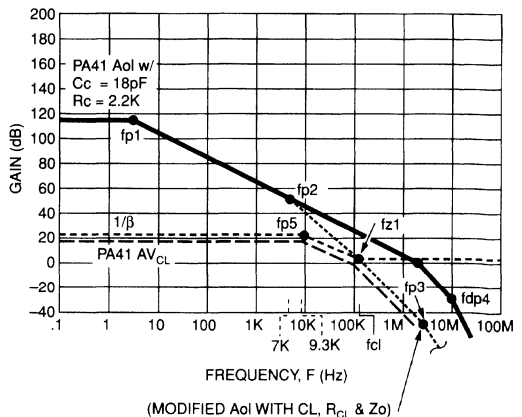

FIGURE 34. POWER OP AMP MAGNITUDE PLOT FOR STABILITY
STEP 5: Draw PA41 Aol curve for Cc = 18pF. The higher frequency poles can be "reverse engineered" from the PA41 open loop phase plot. Note in Figure 34 the pole at 10MHz is labeled "fdp4". This "dp" nomenclature will denote at this frequency there are two poles (double pole).